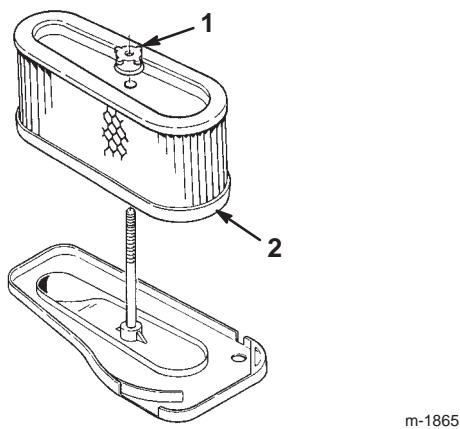

Figure 22
10. Unscrew the rubber nut and remove the paper element (Fig. 22).
3. Screw the rubber nut finger-tight against the air cleaner (Fig. 22).